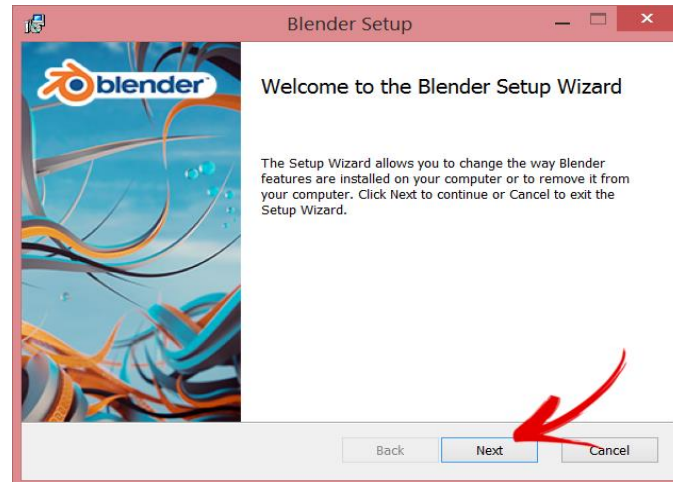

Figure 2
2. On your computer navigate to the blender-2.79a-windows(..).msi file that you just downloaded and double click it. Confirm all the following installation notifications, Figure 2. Blender is now installed on your system.